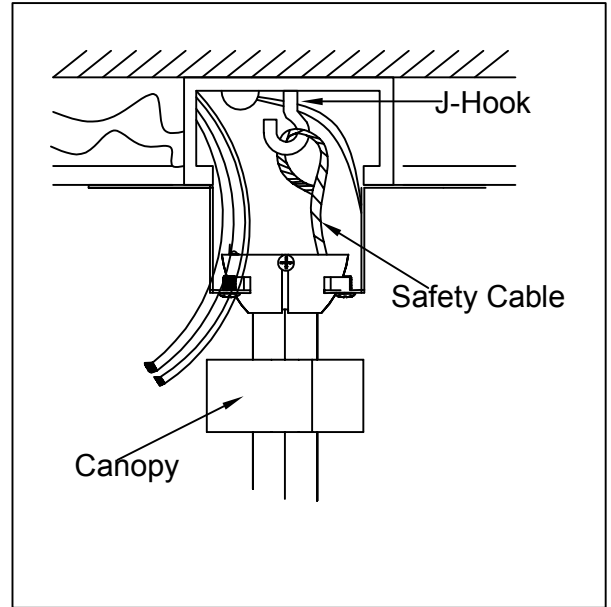

Figure 2.2
- Secure mounting bracket and rubber gaskets to metal outlet box.Hang the safety cable onto the J-hook.(Figure 2.2)